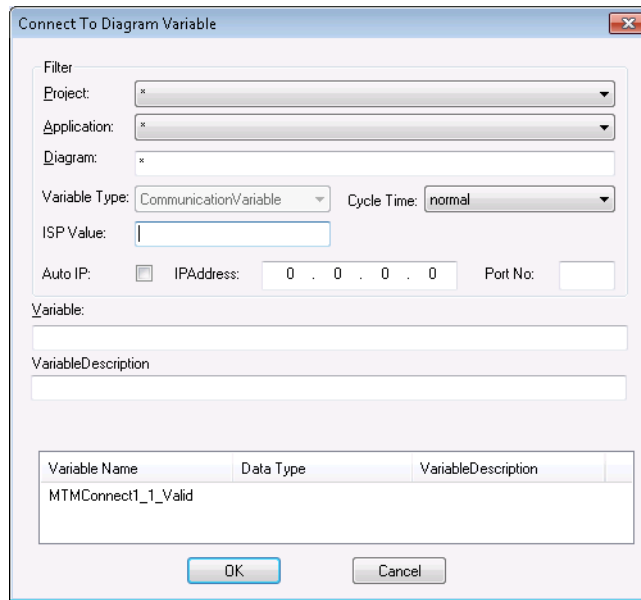

Figure 51. Connect To Diagram Variable dialog
- In the **Connect to Diagram Variable** dialog, select **Variable Type** as **Communication Variable** from the drop-down list as in Figure 51.